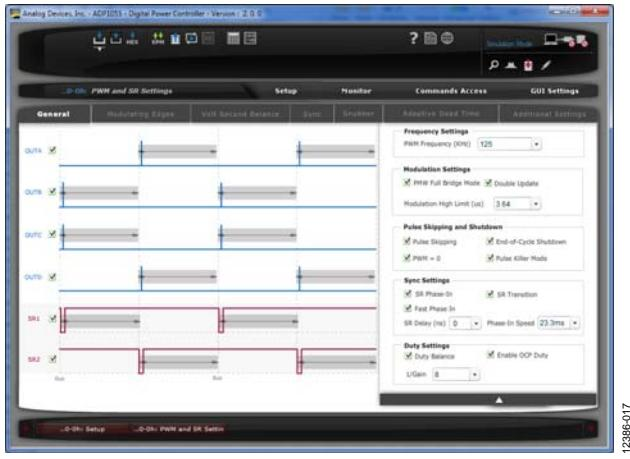
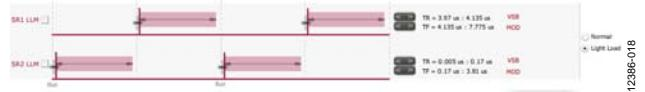

Figure 17. PWM and SR Window (Full Bridge Hard Switching)
Figure 18. SR1 and SR2 in Light Load Mode (LLM)
- All the signals shown in Figure 17 represent the signals at the output pins of the IC.
In Figure 17, a typical PWM configuration for a full bridge hard switching topology is provided with modulation on the falling edges of OUTA to OUTD and on the rising edge of SR1 and SR2. The synchronous rectifiers in light load mode (LLM) have an independent setting as shown in Figure 18.